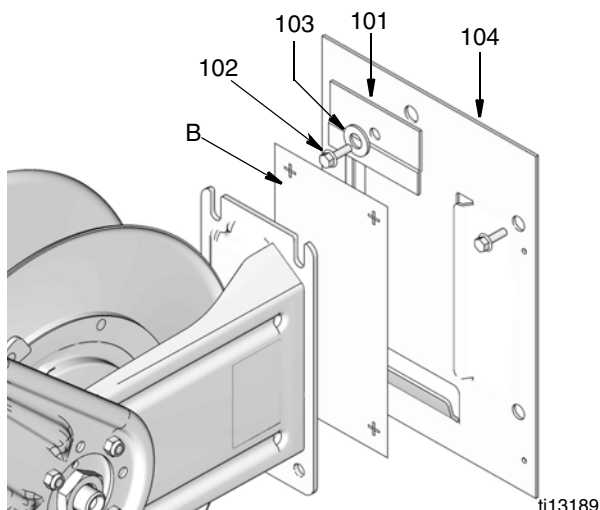

FIG. 10
2. Select the reel bank mounting location. Mount the reel to a wall, using the provided template (B) for laying out the holes you drill.
You can mount the base plate (104) to the wall for easier installation and removal of the hose reel for servicing (FIG. 10).
3. Slide hose reel onto the base plate (104) and install the hold-down plate (101), washer (103) and cap-screw (102). Tighten the screw firmly (FIG. 10).